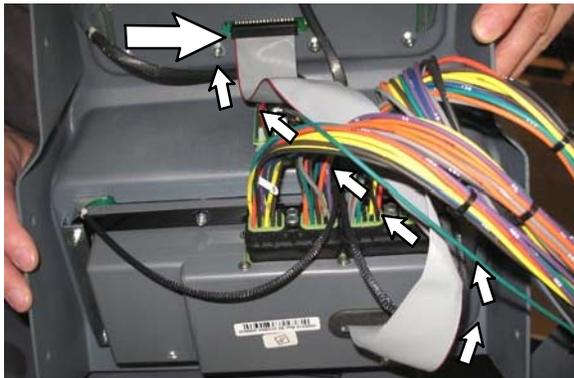

FIG. 4
- Twist and connect the instrument panel (1) ribbon cable to the touch panel. Note location of red tracer on ribbon cable. Refer to Fig. 4.